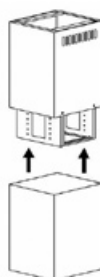

Fig. 9
5. Mount the lower chimney cover on the ceiling holder (Fig. 9 and 10), shift up and fix to the body using screws (C). Keep the minimum required height above the hotplate (650 mm for electric, and 700 mm for gas hotplates, Fig. 6).